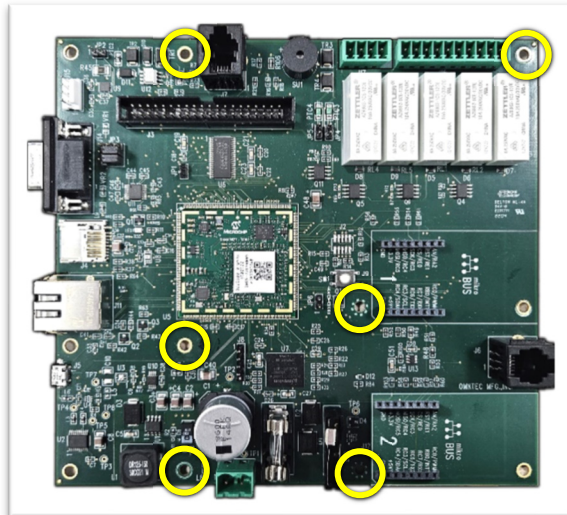

Figure 1.10
- 15) Using the pre-existing screws, secure the Gen IV MCU board at the six points illustrated. (See Figure 1.10; yellow)